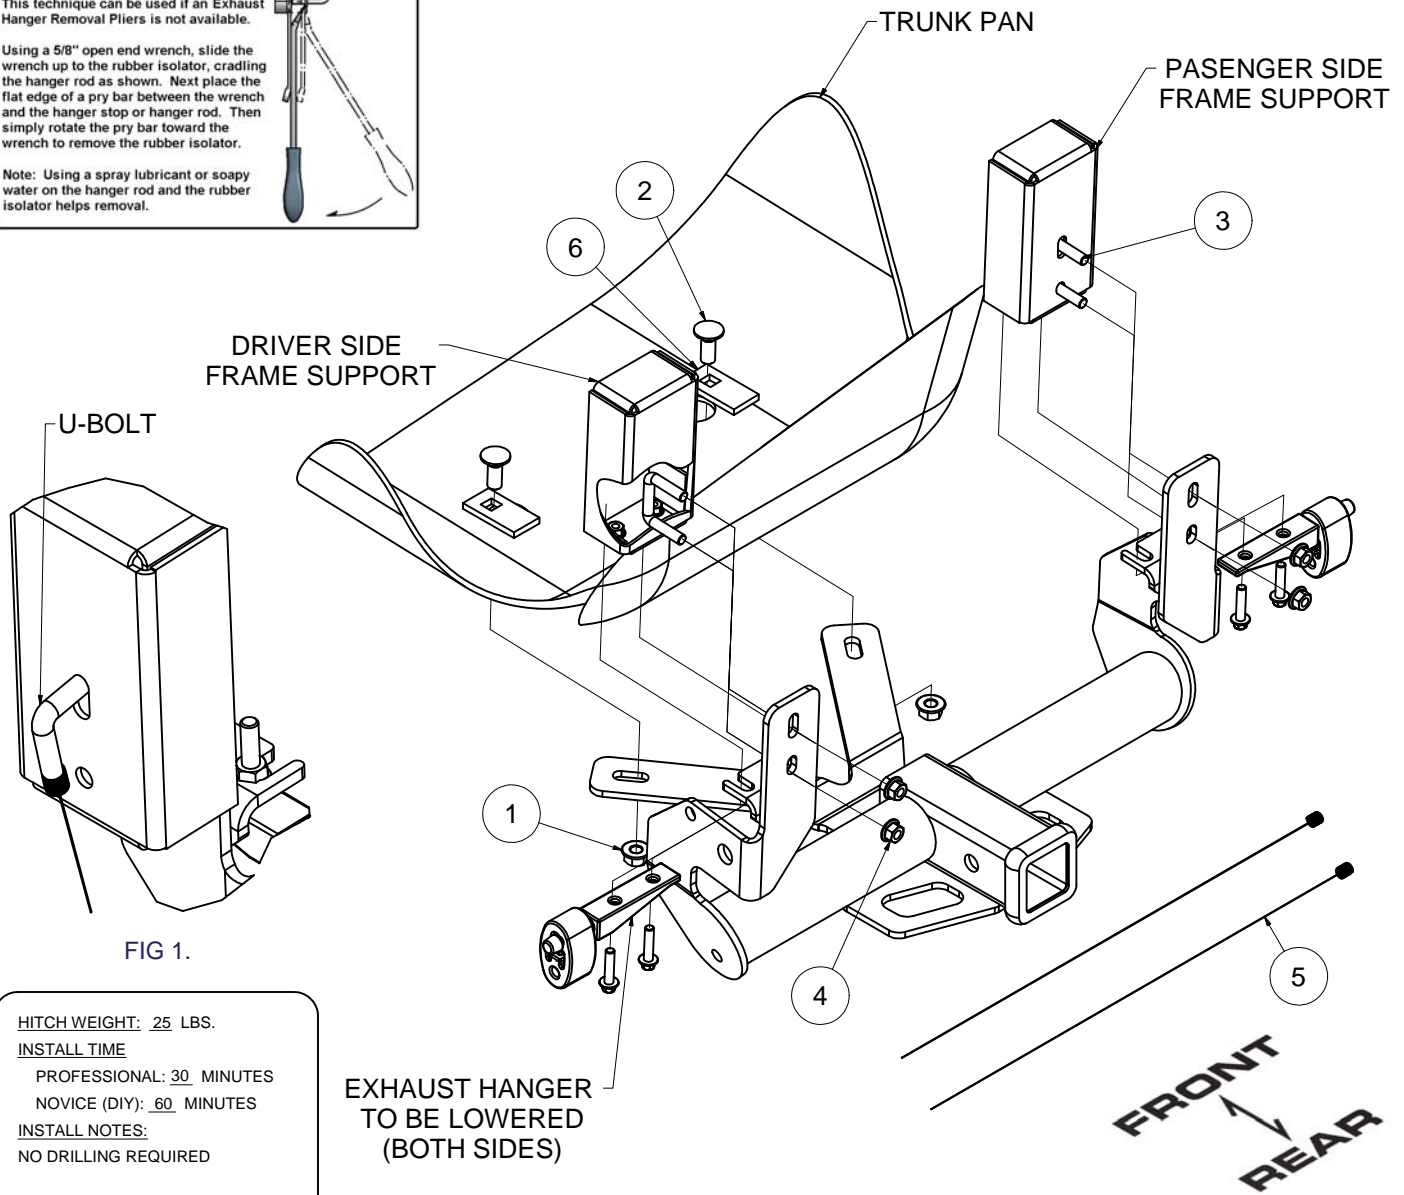

FIG 1.
5. Install the u-bolts in the frame rail support as shown in Fig 1. Resecure the exhaust bracket each side, clamping the hitch mounting strap between the frame support and the hanger bracket by replacing 8mm bolts removed in step 3.
1. Remove the bumper fascia by removing (4) T-20 Torx bit screws (2) from the trunk (1) from each wheel well, and disconnect 1 snap tab on each side from the bumper to the support strap.
2. Remove lower bumper fascia by lightly pulling along the snap groove, which spans the length of the bumper and disconnect (4) sensor plugs.
3. Lower the exhaust hanger from each side of the vehicle frame support by removing (2) 8mm bolts from each exhaust hanger bracket. Cut around the (2) trunk pan plugs and return to customer.